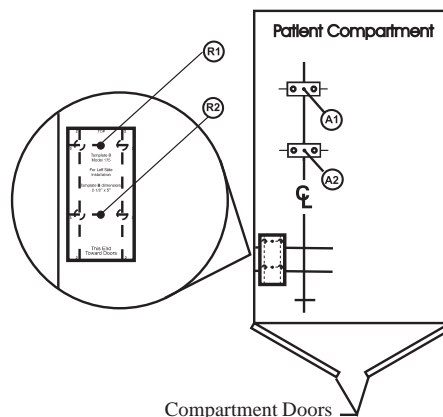

Figure 16 - Placing Template B
3. Position Template **B** on the patient compartment floor with the holes over Rail Point R1 and Rail Point R2 (Figure 16).